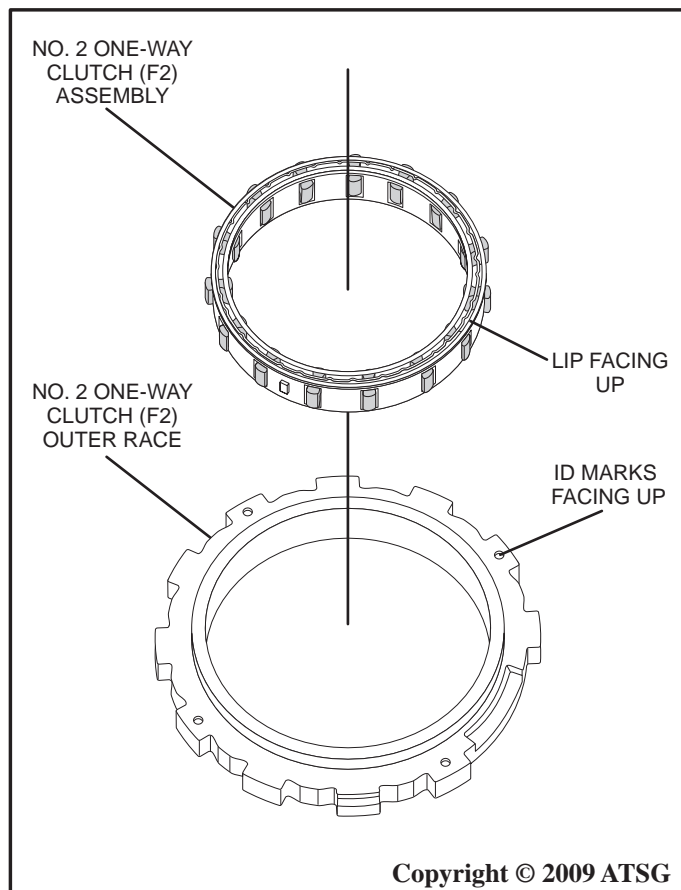

Figure 123
6. Coat the No. 2 one-way clutch (F2) with a small amount of ATF and install into the No. 2 one-way clutch (F2) outer race (*making sure the lip on the one way clutch and the id mark on the inner race are facing upward*) as shown in Figure 123.
7. Figure 123.